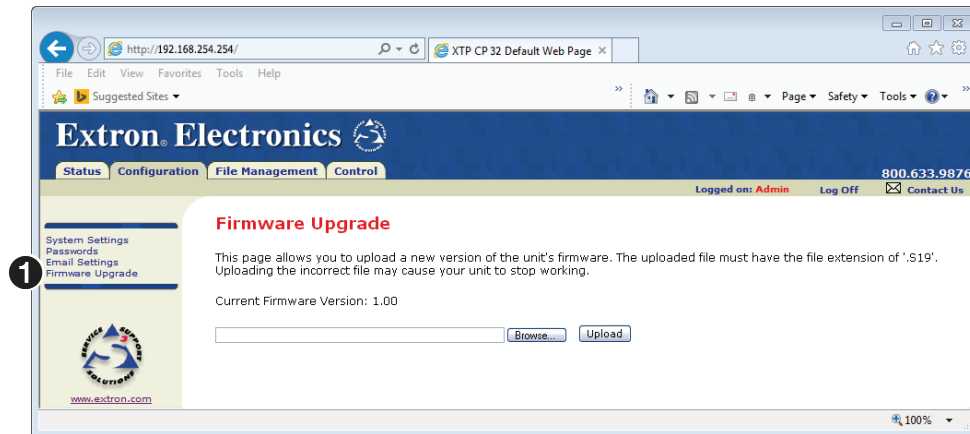

Figure 63. Firmware Upgrade Page
The Firmware Upgrade page is for replacing the matrix switcher firmware. Access the Firmware Upgrade page by clicking the **Firmware Upgrade** link (see figure 63, ❶) on the left of the System Settings, Passwords, or Email Settings page.